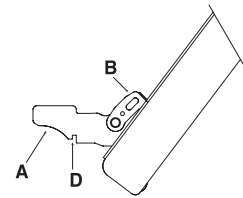

fig 4
- Now, shutting the door slightly, you can lift it out by pulling out the hooks "A" as shown in figure 4.